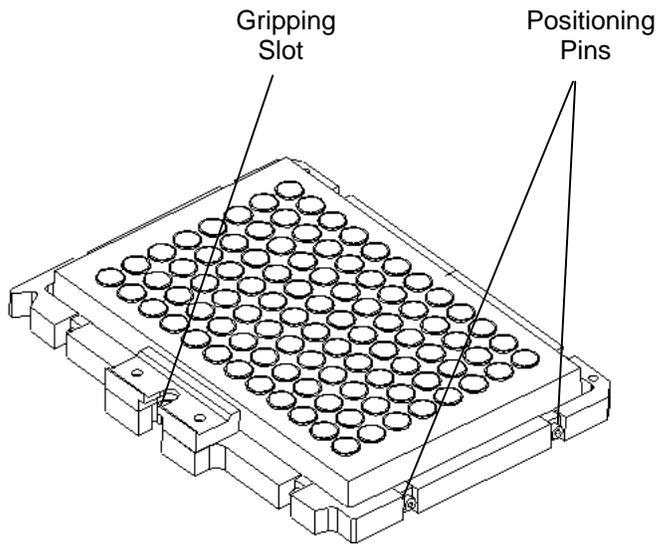

Figure 6. Plate Holder
**Plate holders** (Figure 6) allow the pipette module to transfer a microplate between modules.